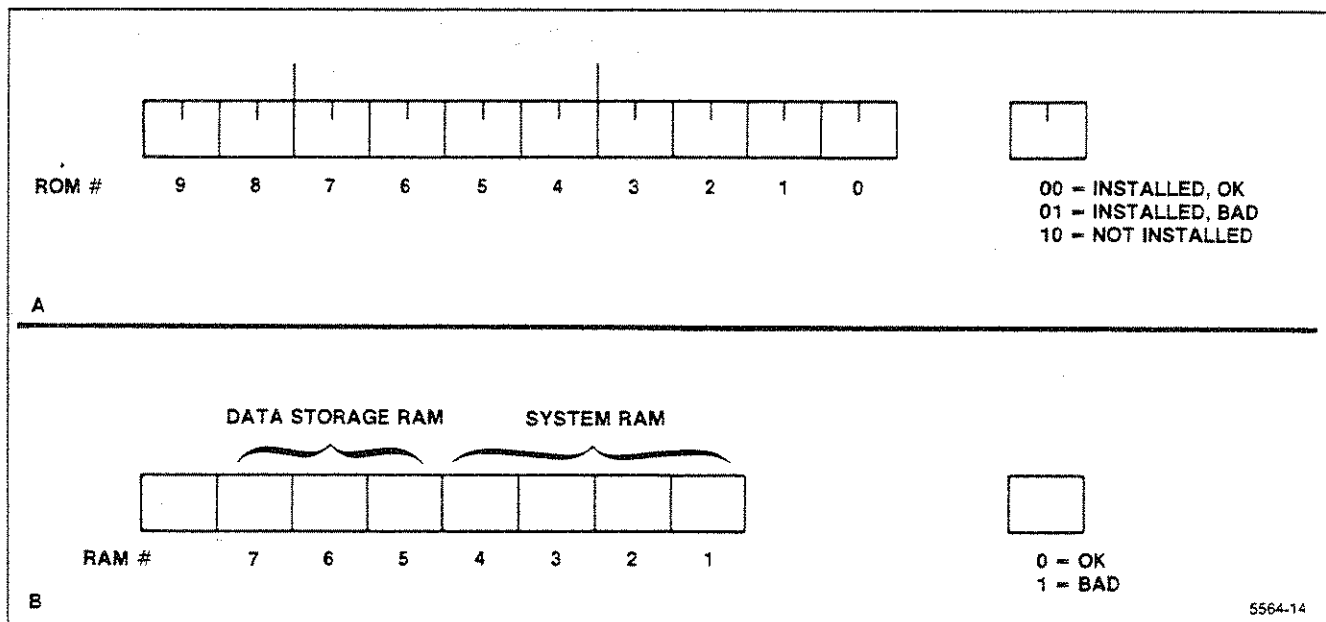

Figure 8-1. TEST Conversion Chart.
The TEST query response consists of two decimal numbers that indicate if a ROM or RAM IC was found to be defective. These numbers must be translated to their binary equivalents to determine the ROM and RAM locations. (If all ROM and RAM are good, the TEST query response will be ROM:0, RAM:0.) After the binary numbers are determined, put them into the conversion chart in Figure 8-1 to identify the IC number. Then, use Table 8-3 to find the correct circuit number and circuit board. The following example shows how to use the conversion chart and Table 8-3. If any ROM or RAM ICs are indicated to be bad, refer this information to qualified service personnel.
2. Insert this binary number in part A of Figure 8-1 (right-justified). Blocks 6 and 2 will be 01. This indicates that both ROM 6 and ROM 2 are bad; all other ROMs are good.
2. Insert this binary number in part B of Figure 8-1 (right-justified). Blocks 5 and 2 each contain a 1, which indicates that both RAMs 5 and 2 are bad; all other RAMs are good.